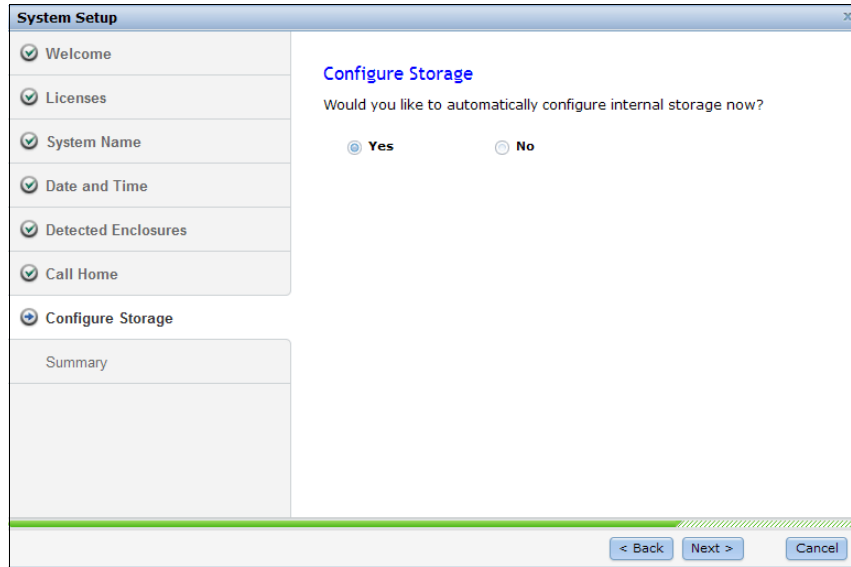

Figure 4-25 Configure storage options
7. Select **Yes** to automatically configure the storage, and click **Next** to continue as shown in Figure 4-25.